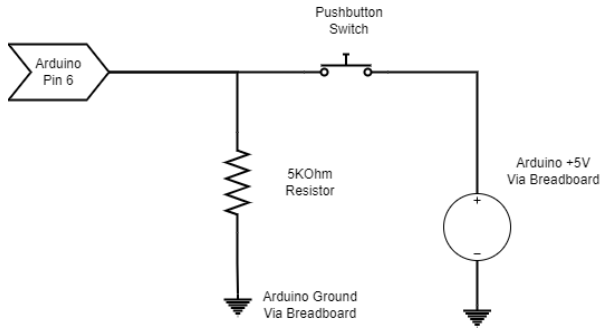

Figure 11: Input circuit using a pull-down resistor. In this case, the input will be low by default and change to high when the button is pressed.
5. Now modify your circuit to use a pull-down resistor as shown in Figure 11. Again, your previous code should work without modification. The behavior should reverse with "Off" being displayed by default and it should change to "On" when the button is pressed.